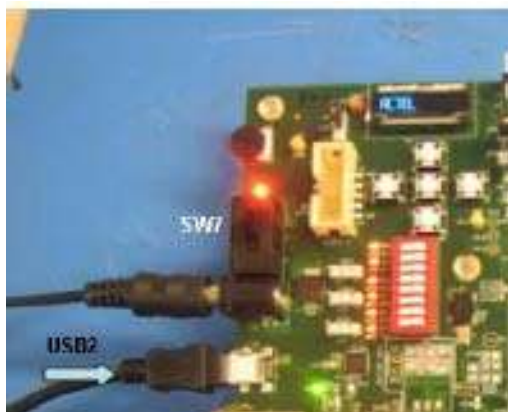

Figure 2-4 • Connecting the USB and 9 V Power Supplies on the M1AFS-ADV-DEV-KIT Board
1. Connect one end of the USB mini cable to USB port J2 on the M1AFS-ADV-DEV-KIT board (labeled USB2 in Figure 2-4) and connect the other end to the USB port on your PC.
2. Connect one end of a 9 V power supply to power input J3 on the M1AFS-ADV-DEV-KIT board (Figure 2-4) and plug the supply into an electrical outlet.